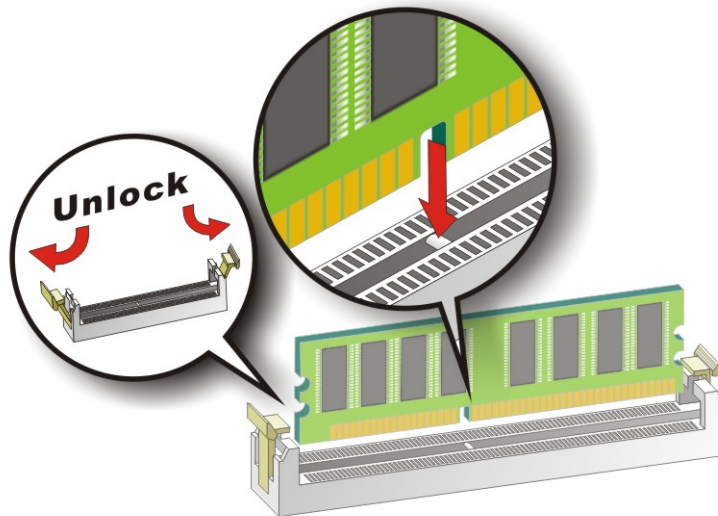

Figure 4-7: Installing a DIMM
To install a DIMM, please follow the steps below and refer to **Figure 4-7**.
- Step 1: Open the DIMM socket handles.** The DIMM socket has two handles that secure the DIMM into the socket. Before the DIMM can be inserted into the socket, the handles must be opened. See **Figure 4-7**.
- Step 2: Align the DIMM with the socket.** The DIMM must be oriented in such a way that the notch in the middle of the DIMM must be aligned with the plastic bridge in the socket. See **Figure 4-7**.
- Step 3: Insert the DIMM.** Once properly aligned, the DIMM can be inserted into the socket. As the DIMM is inserted, the white handles on the side of the socket will close automatically and secure the DIMM to the socket. See **Figure 4-7**.